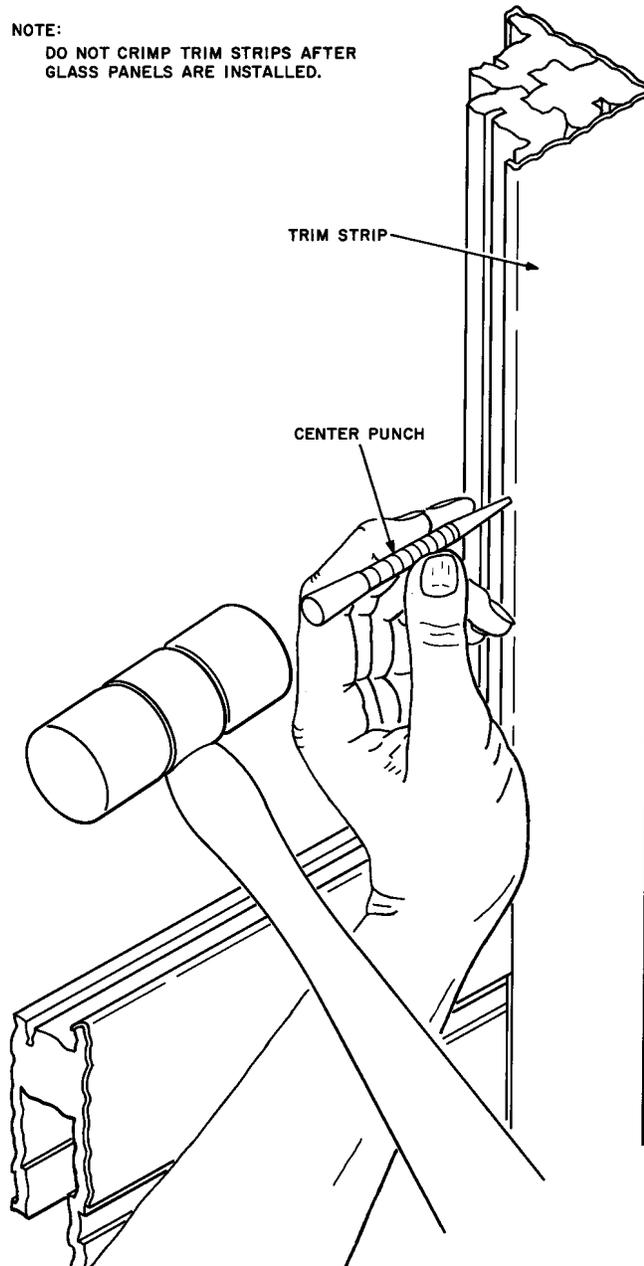

Fig. 11—Method of Crimping Trim Strips
- (b) Crimp the edges of all trim strips (except T7, T8, and T11) after they have been installed, approximately every 6 inches, using RS-14770 soft face hammer and a center punch (Fig. 11). These indentations should be kept small enough to be hid by the glazing strips.